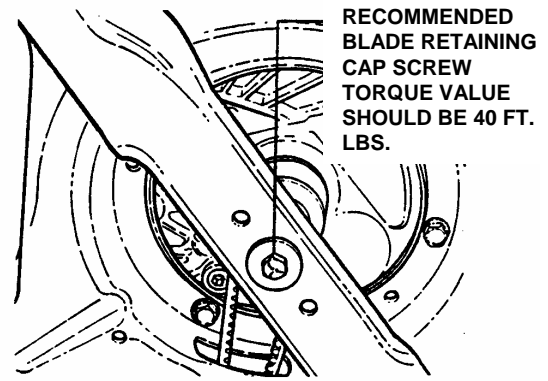

FIGURE 3.5
2. Tilt mower up on its rear wheels for access to the blade cap screw. Do not tilt mower with spark plug or carburetor down. See Figure 3.5.
3. Check torque of blade retaining cap screw. Recommended torque should be 40 ft. lbs. See Figure 3.5.